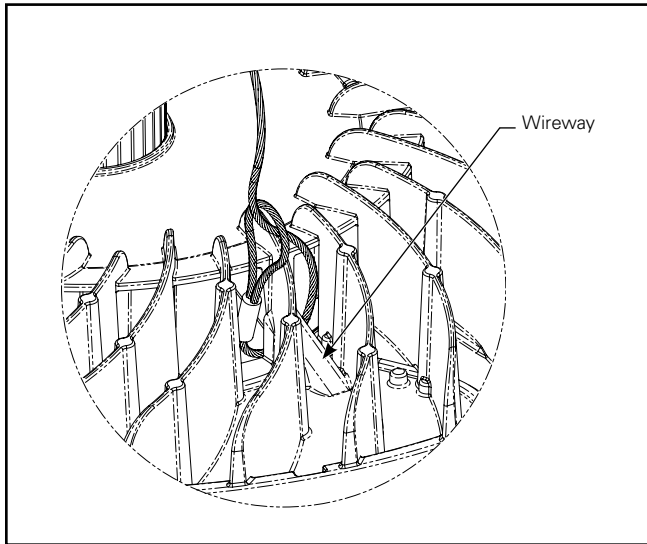

Figure 1.
1. Feed eyelet of safety cable through heat sink fins and around the wireway as shown in Figure 1.